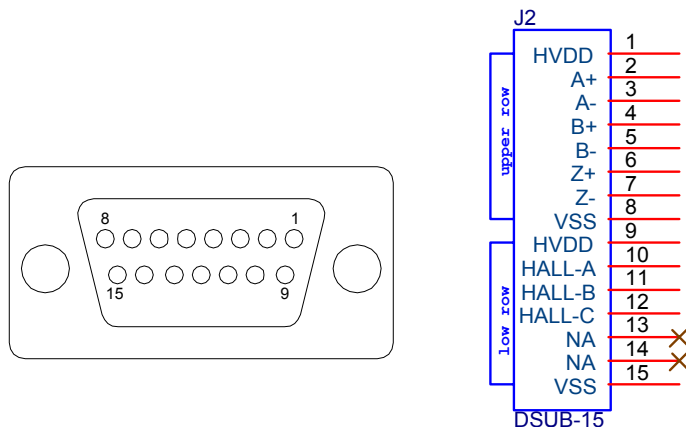

Figure 18. Encoder Interface Connector, J2
- Assemble 15-pin male D-Sub connector (Digi-Key part # A23087-ND and A2072-ND), referring to Figure 18.